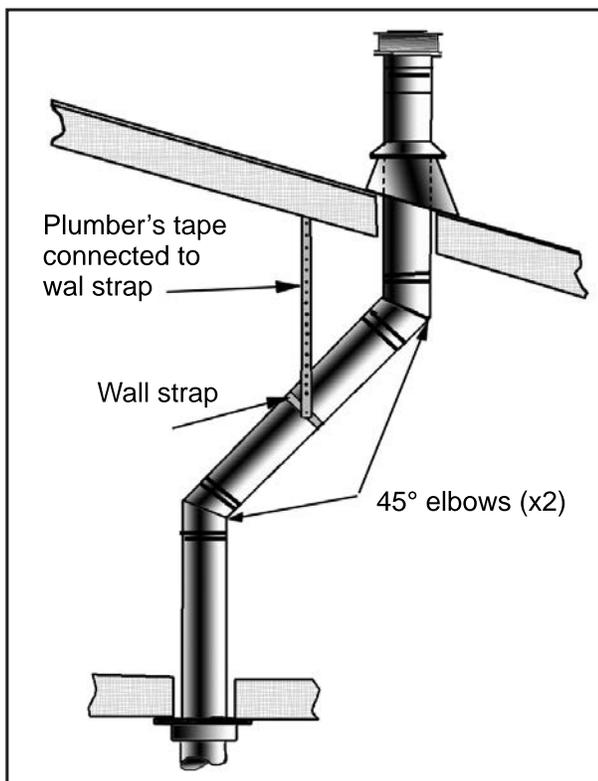
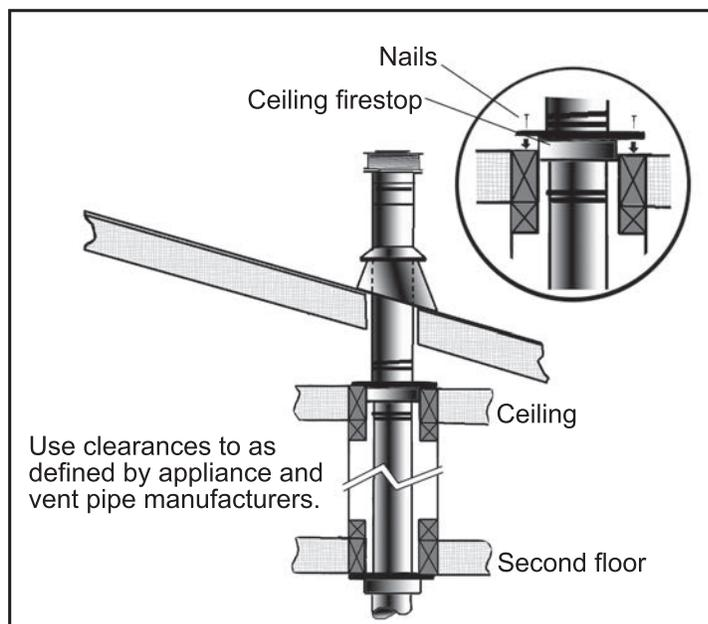

Figure 56: Use of Wall Straps.
Figure 57: Multi-Story Vent Pipe Installation.
Table 8: Minimum 'H' for Figure 56.
- (1) If an offset is necessary in the attic to avoid obstructions, it is important to support the vent pipe every 3 feet (914 mm), to avoid excessive stress on the elbows, and possible separation. Wall straps are available for this purpose (see Figure 56).
- (2) When ever possible, use 45° degree elbows instead of 90° degree elbows. The 45° degree elbow offers less restriction to the flow of flue gases and intake air.
- (3) For multi story installations; a ceiling firestop is required at the second floor, and any subsequent floors (see Figure 57). The opening should be framed to 10" (254 mm) x 10" (254 mm) inside dimensions, in the same manner as shown in Figure 46.
- (4) Any occupied areas above the first floor, including